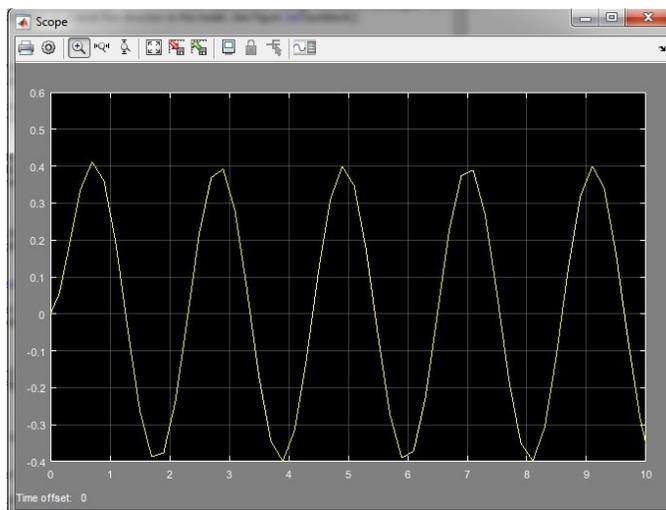
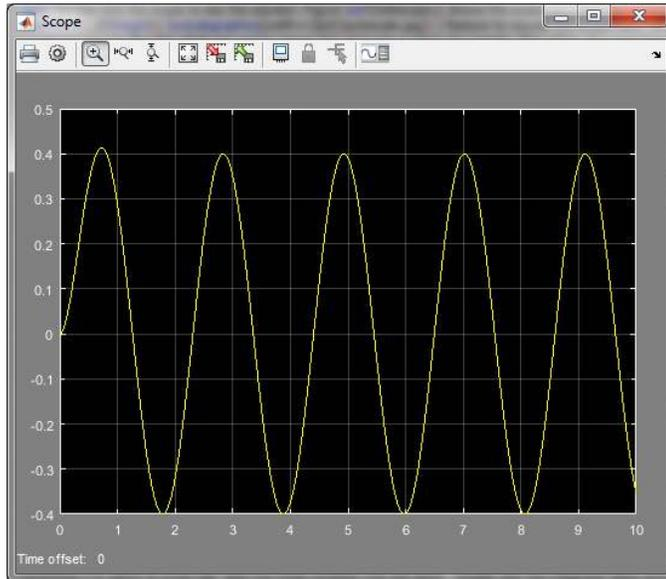
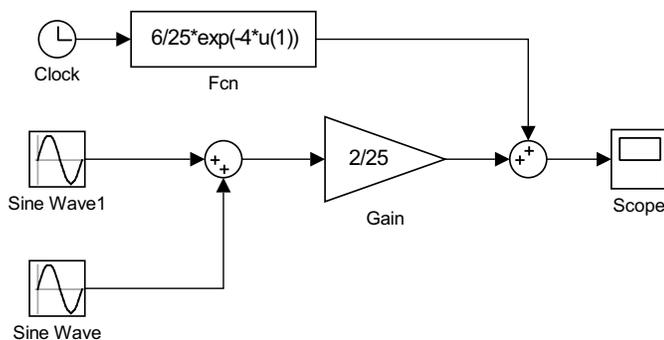

Figure 1.11: **Scope** plot of the solution of  $\frac{dx}{dt} = 2 \sin 3t - 4x$ ,  $x(0) = 0$ , with **Refine Factor**= 1.
Figure 1.14: Scope plot of the solution of  $\frac{dx}{dt} = 2 \sin 3t - 4x$ ,  $x(0) = 0$ , with Refine Factor= 10.
Figure 1.22: Model for plotting the exact solution (1.8 of the initial value problem (1.6).
- Double-click the **Scope** to see the solution. Figure 1.11 shows the **Scope** plot after using the autoscale (  ) feature to rescale the scope view. A little effort is needed to change the plot attributes and to import the plots into working documents. This will be discussed in Section 1.4.
- Also, one can make further changes to the system by checking the **Configuration Parameters** under the Simulation menu item. See Figures 1.12-1.13. In particular, changing the **Refine Factor** can lead to smoother solutions. The solution shown in Figure 1.11 had a setting of 1 and that in Figure 1.14 is the result of setting the **Refine Factor** to 10.
The solution can be found using Simulink. The model for this is shown in Figure 1.22. The plot on the scope matches that in Figure 1.11.